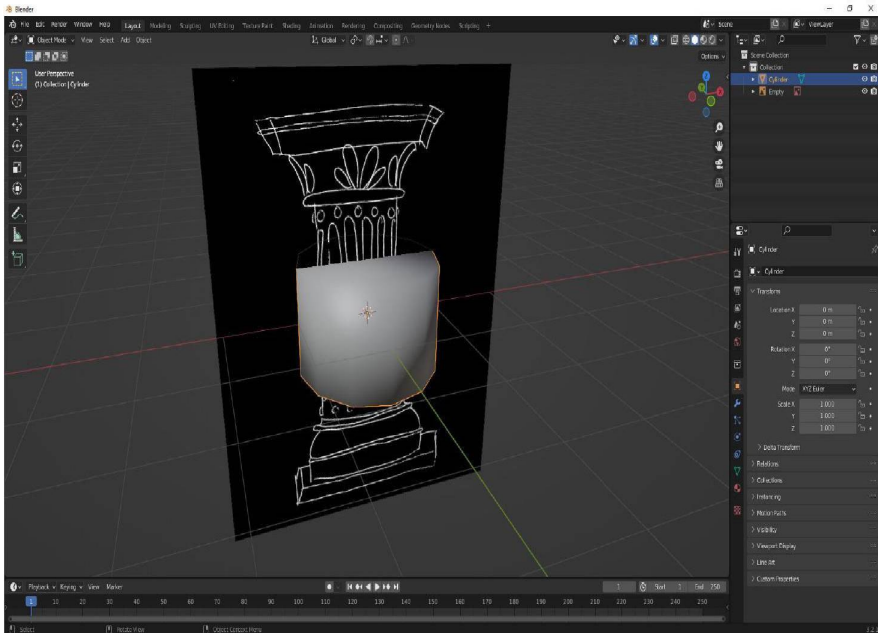

Figure 4.11: A completely smooth shaded, 12-sided cylinder
1. To enable a smooth, round-appearing shading on our 12-sided cylinder, with the Cylinder selected we will select Object from the upper left menu in the 3D Viewport and choose Shade Smooth as shown in *Figure 4.11*: